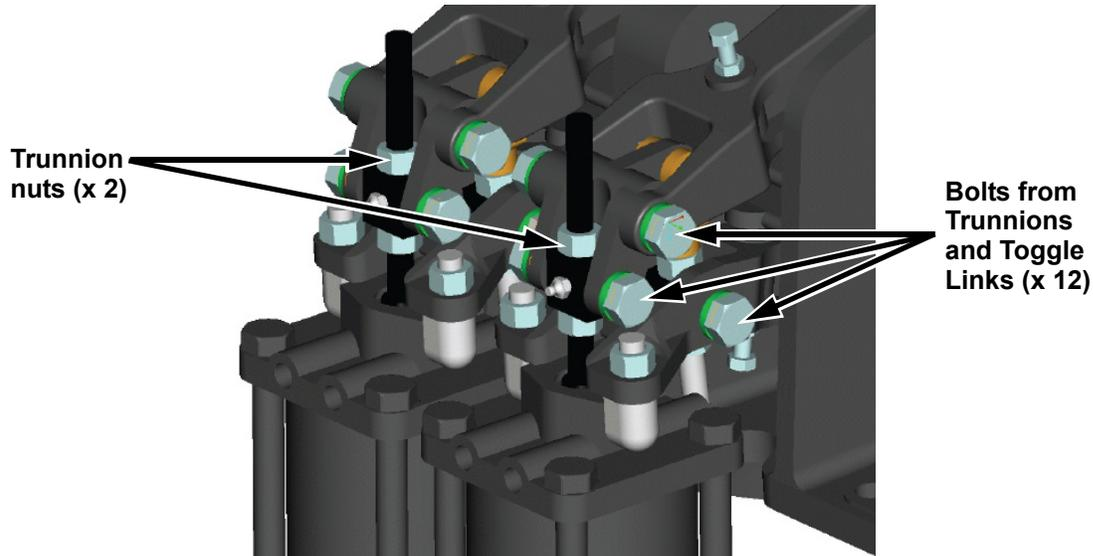

Figure 1: Trunnion and Toggle Links Nuts and Bolts
3. Loosen, but do not remove trunnion nuts (x 2). See Figure 1 on page 2.
5. Remove all bolts from the trunnions and toggle links (x 12). See Figure 1.